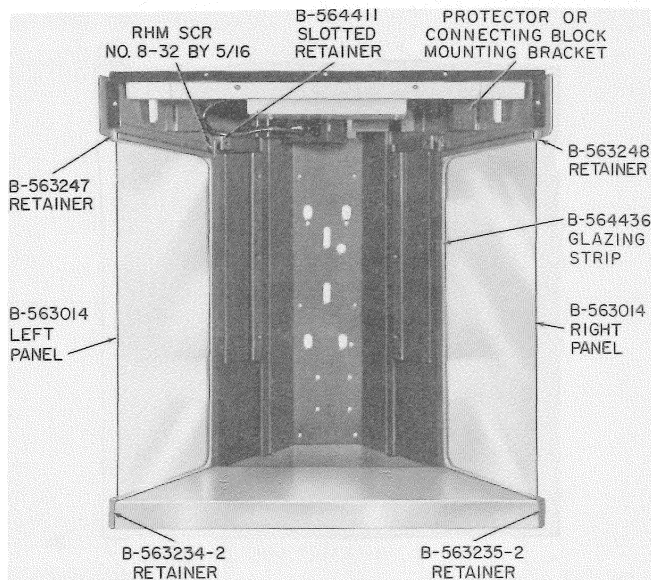

Fig. 19—KS-19426, List 1 Housing Showing Installation of Panels
3.59 If station protection is required, install 123A1A protector on the bracket provided in the rear of the housing (Fig. 19) and terminate station wiring on protector.